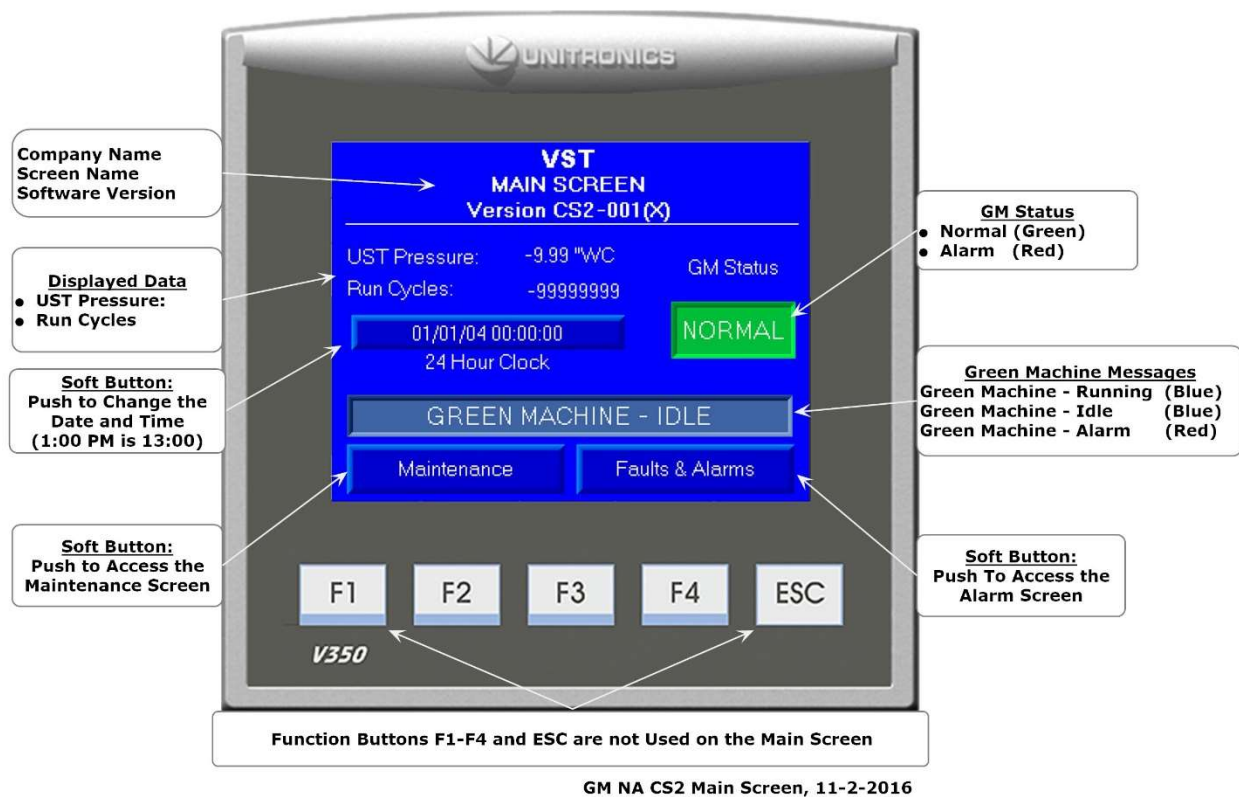

Figure 4-2: Main Screen
- The Control Panel PLC will always power up in the Main Screen. **See Figure 4-2.**
- A password (878) is required to access the Maintenance Screen.